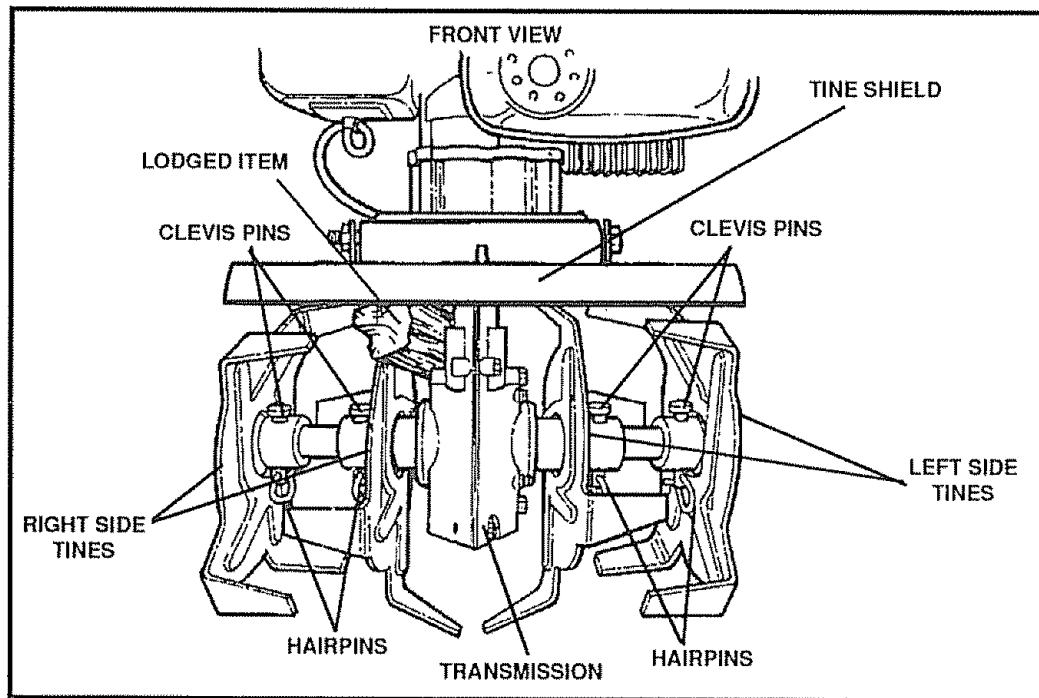

FIG. 11
Always remove the dirt and debris from the mini tiller/cultivator after each use (see Fig. 11). Remove any string, wire or vegetation that may become lodged in the mechanism and stop the tine rotation. Proceed as follows:
- Remove the hairpin and clevis pin securing the tine(s) assembly to the shaft and remove the tine(s) (see Fig. 11).